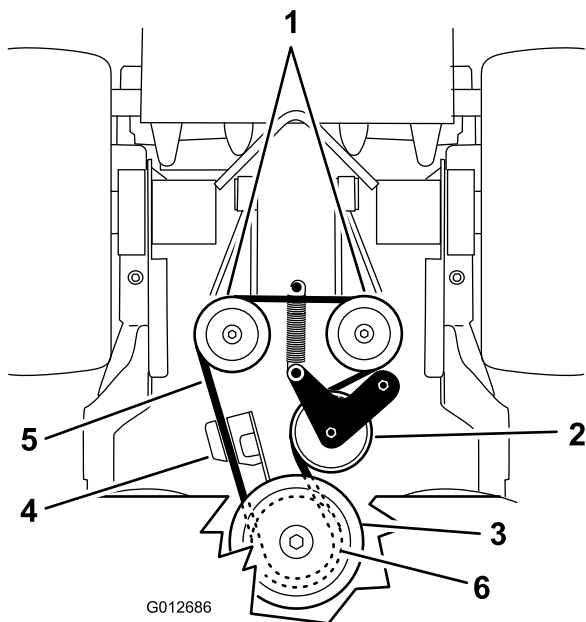

Figure 66
5. Release the spring from the engine deck (Figure 66).
6. Remove the pump drive belt (Figure 66).
8. Install the spring to the engine deck (Figure 66).